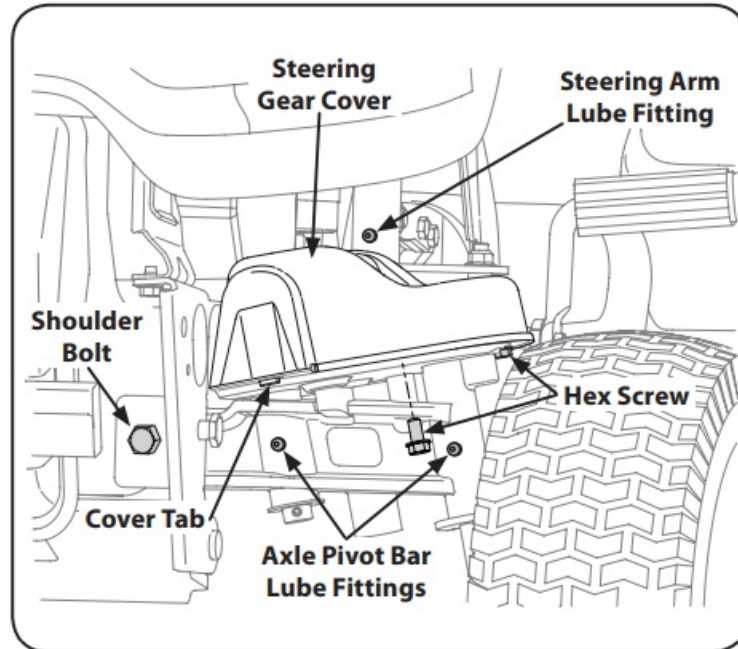

Figure 6-2
1. Apply grease through the lube fitting on the RH and LH steering arms which are located at rearward end of the two steering drag links. See Fig. 6-2.
2. Locate the lube for the pivot shaft and axle on the front of one end of the axle pivot bar. Apply grease through the two lube fittings, then repeat to lubricate the other end of the pivot bar. See Fig. 6-2.
1. From beneath the cover base plate on each end of the pivot bar, remove the three hex screws securing the steering gear cover. Remove the covers and clean the gears. It is not necessary to lubricate the gears. Refer to Fig. 6-2.
- a. Support the pivot bar, then remove the hex lock nuts securing the two shoulder bolts that pass through the pivot bar bracket, the pivot bar, and frame. Refer to Fig. 6-2.